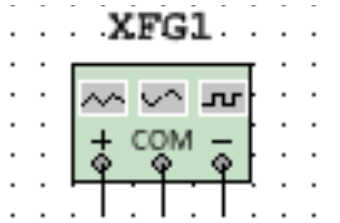

Figure 10. Function generator.
- Create a new circuit design, select a function generator from the Instrument column, and add it to the circuit, as shown in Figure 10.